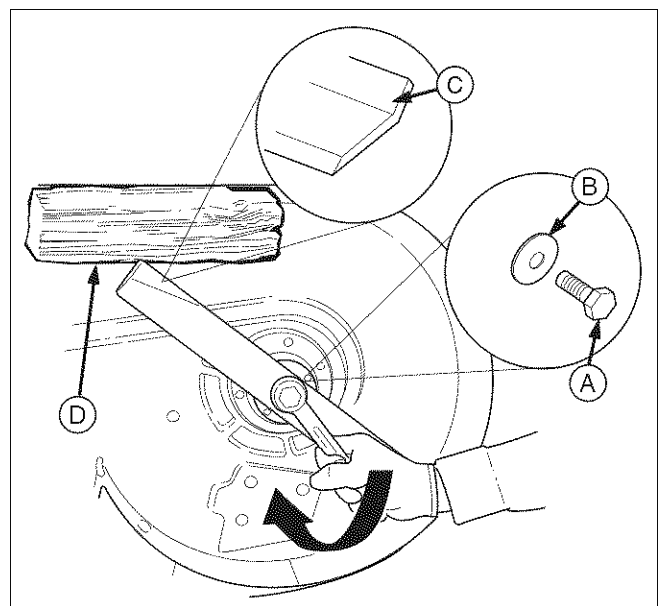

Figure 28. Tightening the Mower Blade for Installation
1. Reinstall each mower blade with the air lifts pointing up towards the mower deck as shown in Figure 28. Secure with the mower blade mounting bolt and flat washer (A & B, Figure 28) and torque to 70 ft. lbs (94 Nm).